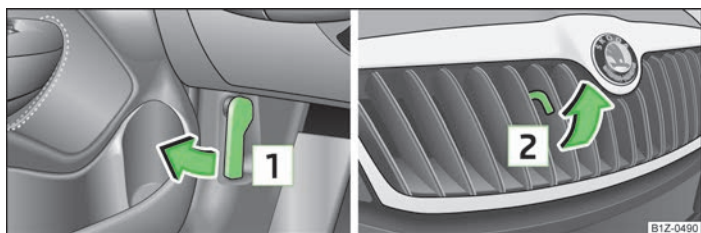

Fig. 131 Bonnet/radiator grille release lever: Release lever
➤ Pull the release lever under the dash panel » Fig. 131.
- Pull the release lever in the direction of the arrow » Fig. 131 and the bonnet is unlocked.